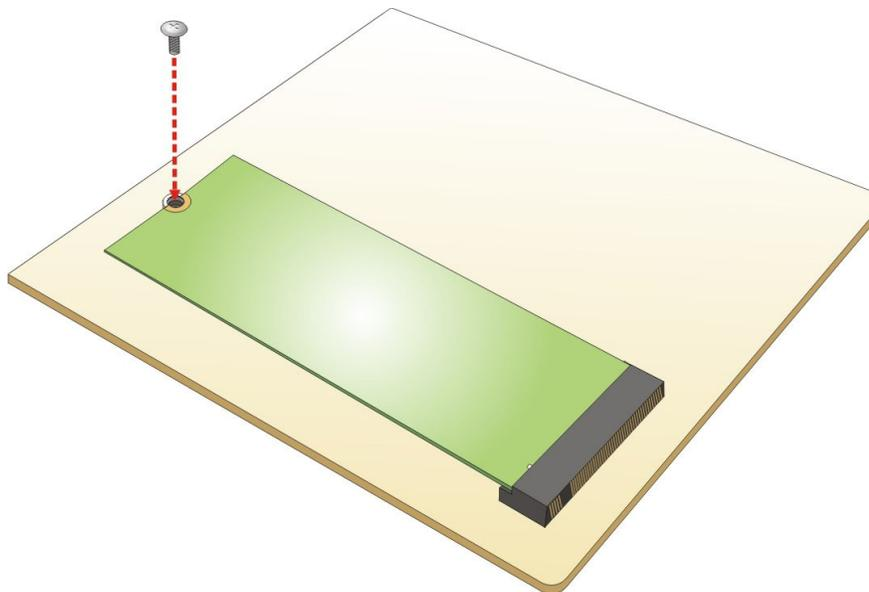

Figure 4-4: Securing the M.2 Module
Step 4: Push the M.2 module down and secure it with the previously removed retention screw (Figure 4-4).